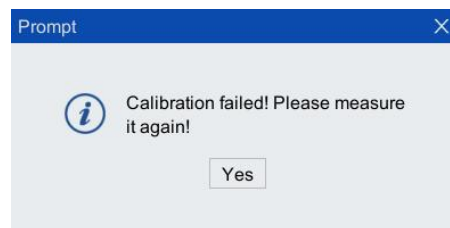
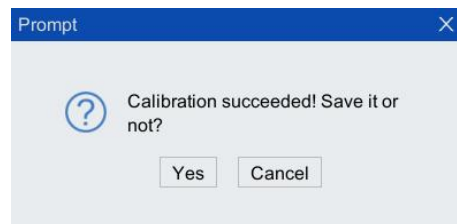
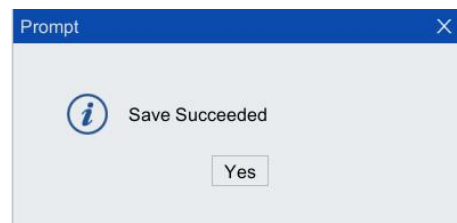

Figure 5-87 "Calibration failed, please re-measure!" prompt dialog box
Figure 5-88 "Calibration is successful, save it?" prompt dialog box
Figure 5-89 "Save successfully" prompt dialog box
- Step4.** After all the calibrations are successful, click the <Calculate> button at the bottom of Figure 5-86 to calculate the error. If it exceeds the error range, the "Calibration failed, please re-measure!" box as shown in Figure 5-87 will pop up, then you need Re-calibrate until the error is within the allowable range; if the error is within the allowable range, the "Calibration is successful, save it?" prompt dialog box as shown in Figure 5-88 will pop up, click the <Yes> button, and Figure 5-89 will pop up As shown in the "Save Successful" prompt box, the calibration is completed.